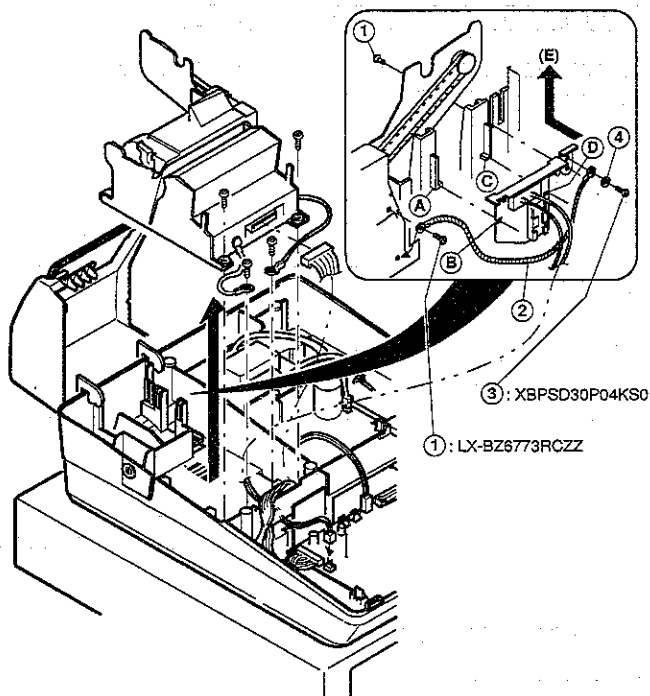

Fig. 2
Fix the other end of the grounding wire ② to the screw ① hole in the right rear side of the R/J printer. (Fig. 2)